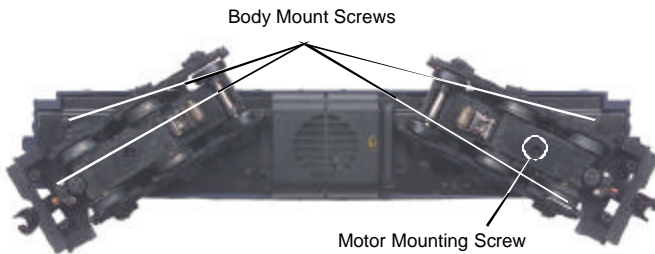
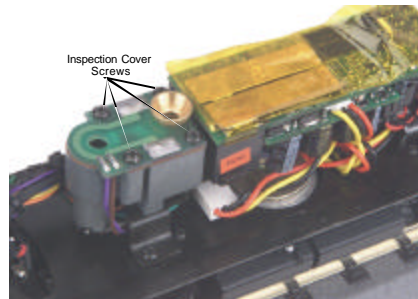

Figure 5: Body Removal Screw Locations
Figure 11: Smoke Unit Inspection
2. Once the cab is removed, remove the trucks by unscrewing the black Phillips motor mount screw located on the underside of the drive trucks (see Fig. 5).
If you experience poor or no smoke output when the smoke unit is on and has fluid, check the wick to see if it has become hard, blackened, and unabsorbent around the heating element. After removing the locomotive body from its chassis (See Figure 5), remove the smoke unit inspection cover (see Fig. 11). After removing the inspection cover screws, lift the inspection plate away and inspect the wick. If it is darkly discolored and hard, it should be replaced.